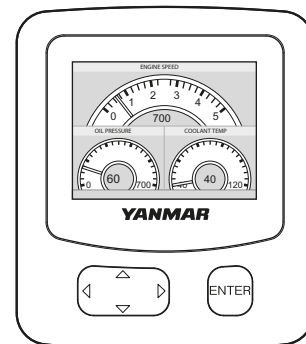

Figure 4
- When the engine starts, the VC20 display will show the screen with engine conditions (**Figure 4**).